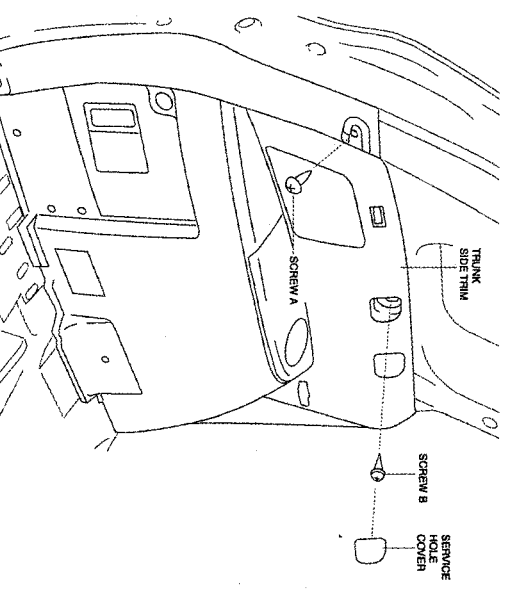

FIGURE 41
- 1.) REMOVE SCREWS A. (SEE FIGURE 41)
- 2.) REMOVE THE SERVICE HOLE COVER, THEN REMOVE SCREW B. (SEE FIGURE 41)